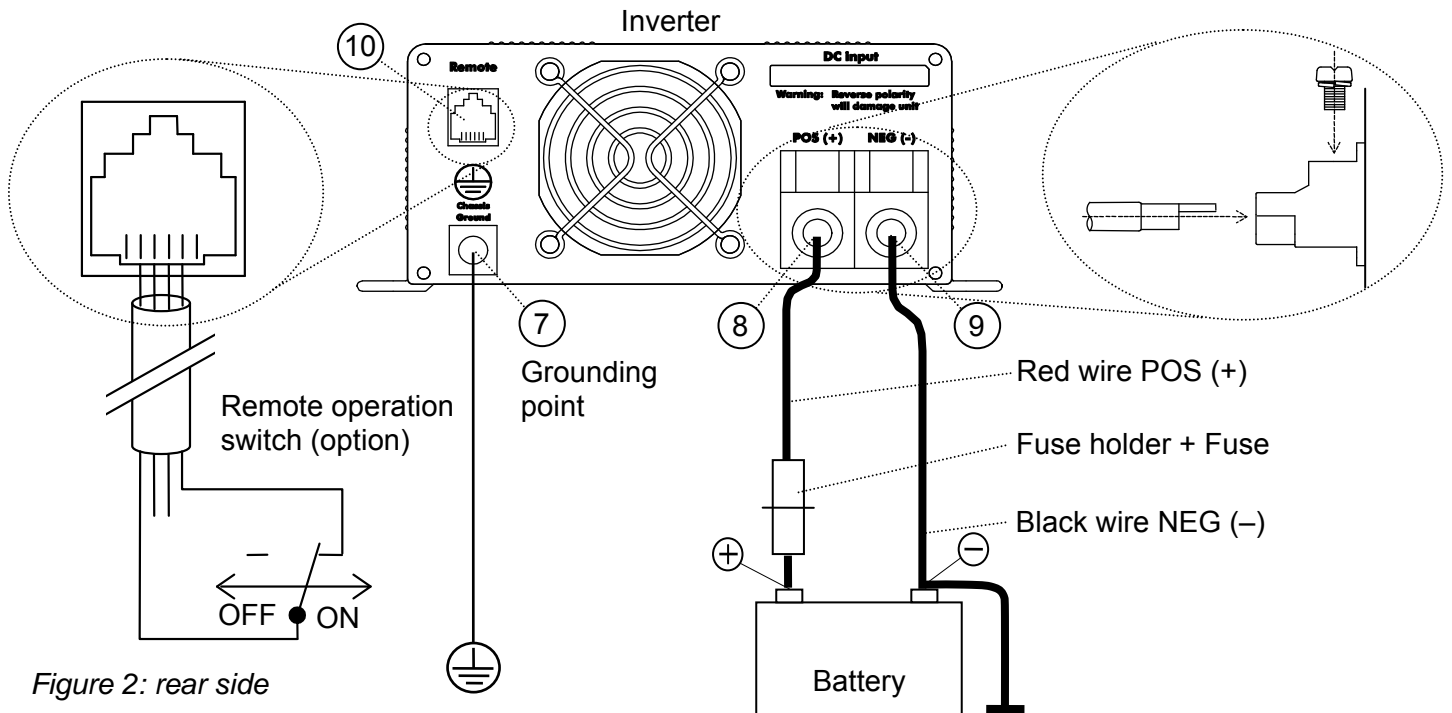

Figure 2: rear side
- The chassis ground terminal (see Figure 2, ref. 7) must be connected to the central grounding point of the vehicle/ ship
- The neutral conductor (N) of the AC output of the Inverter must be connected to the safety ground (PE/GND) and a ground fault circuit-interrupter (GFCI) must be integrated in the wiring of the AC output. See below for model specific information.
- Connect DC wiring as shown in Figure 2: the black terminal (9) NEG (-) to the negative (-) pole of the power source / battery, the red terminal (8) POS (+) to the positive (+) pole of the power source/ battery. Integrate a DC fuse holder in the positive wiring, but do not place the fuse yet. Assemble the DC wiring exactly as indicated. Do not place anything between the ring terminal and the terminal surface. Make sure that all DC connections are tight. Recommended torque: 11.7-13 Nm / 104-115 InLbs
- Chassis ground: Use a cable AWG8 / 6 mm² to connect the CHASSIS GROUND terminal (7) to the central ground.
- Remote operation switch (option). If you want to operate the Inverter on a remote location, you can install a switch as indicated in Figure 2. When the contact is closed, the Inverter is switched on.